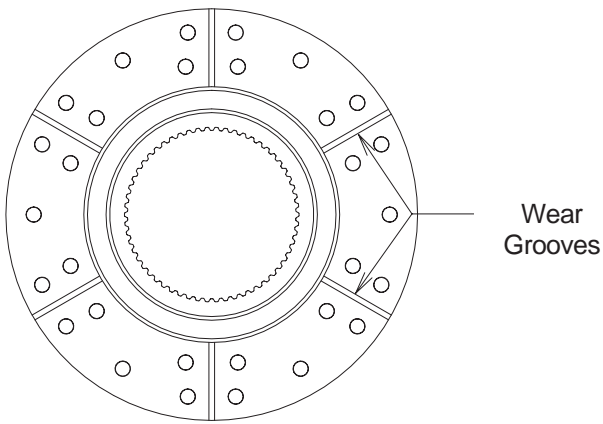

Figure 8
Note: On all units, the friction material must be replaced when worn to the bottom of the groove on the friction lining. See Figure 8. See Table 17 in Section 6.0 for new wear groove depth.
- 4.3.8 Inspect the friction disc assemblies (7) for wear or contamination. On single and multi-disc units, the friction material must be replaced when worn to the bottom of the groove on the friction lining. See Figure 8.